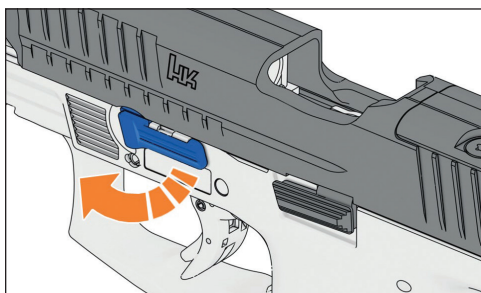

Figure 24 – Rotating the disassembly lever
2. With the slide still locked to the rear and the magazine removed, rotate disassembly lever, located on the left-hand side of the frame assembly, downward until the lever is pointing to approximately the six o'clock position (see Figure 24).